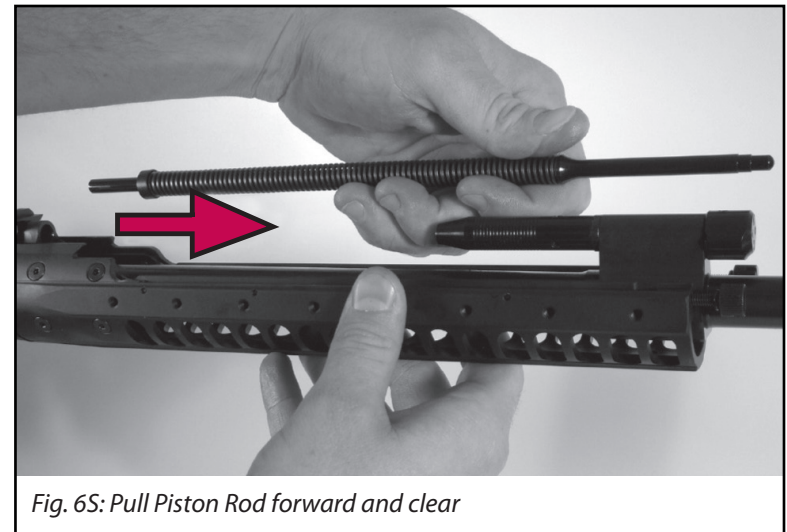

Fig. 6S: Pull Piston Rod forward and clear
6.2.5b Lift out the front of the operating rod assembly and pull it forward then away from the receiver. (Fig. 6s)